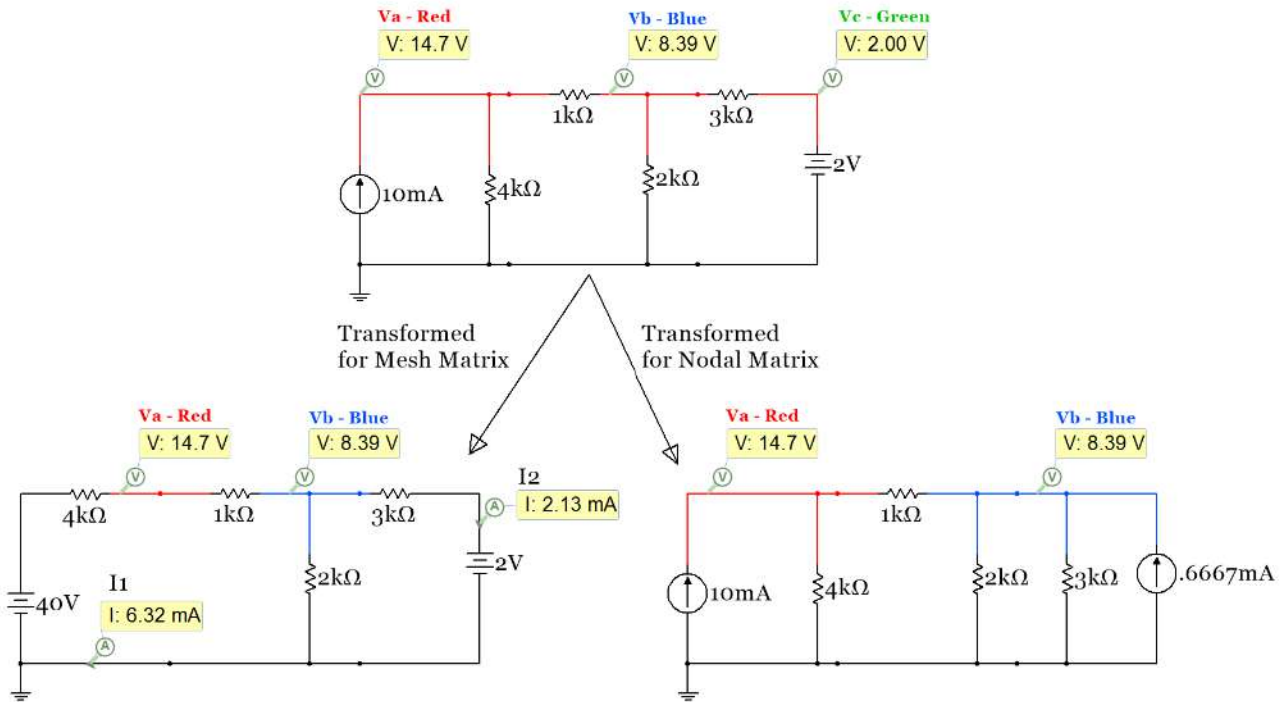

Figure 2.25: Circuit in Figure 2.23 transformed to a circuit with only voltage (left) or current sources (right).
Multisim probes for I1 and I2 are also shown in the bottom left circuit in Figure 2.25 because we will first get these values from Mesh Matrix analysis and use them along with Module 1 techniques to find V_A and V_B .
These current values match the Multisim probes in Figure 2.25. Now V_A and V_B are calculated as follows:
- 4) **The diagonal of the A matrix (cells A_{11}, A_{22}, A_{33} , etc.) is populated by adding the conductance value of each resistor touching the corresponding node.** For example, A_{11} for the circuit in Figure 2.25 is the sum of all of the conductance values of the resistors touching Node A. $\rightarrow A_{11} = (1/4000 + 1/1000)$
- 5) **The off-diagonal cells of the A matrix always have a negative sign and are populated by adding the conductance value of each resistor touching the 2 nodes that correspond to the cell and multiplying the sum by -1.** For example, the A_{12} cell (which can also be thought of as the V_{AB} cell) in the matrix is found by adding the conductance value of each resistor touching both nodes A and B and multiplying the sum by -1. Like described for the Mesh Matrix method the A matrix is symmetric. An example calculation is A_{12} for the circuit in Figure 2.25. It is the sum of all of the conductance values touching both nodes A and B (multiplied by -1). $\rightarrow A_{12} = A_{21} = - (1/1000)$